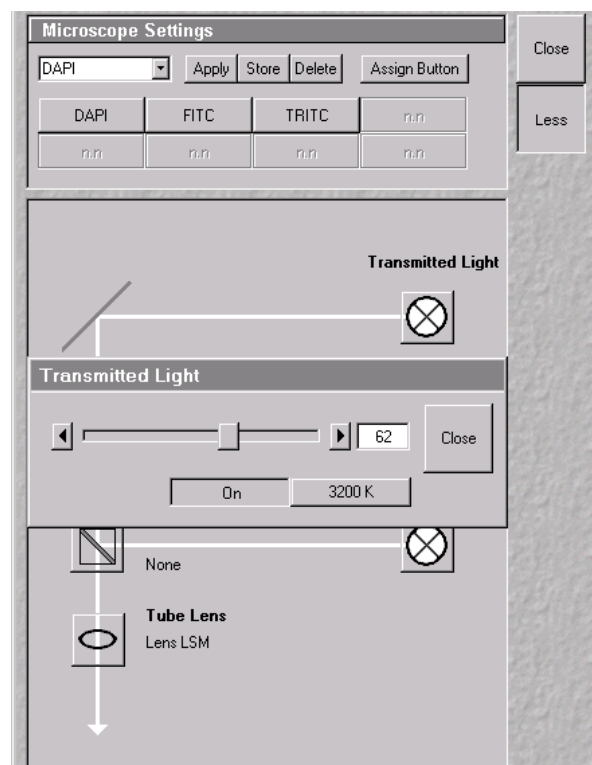

Fig. 11 Microscope Control window with Transmitted Light pop-up menu
- Open the graphical pop-up menu by clicking on the **Transmitted Light** button (Fig. 11).